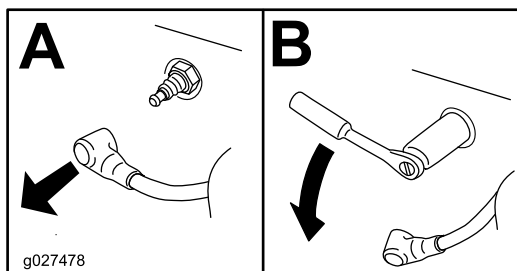

Figure 50
4. Remove the spark plug (Figure 50).